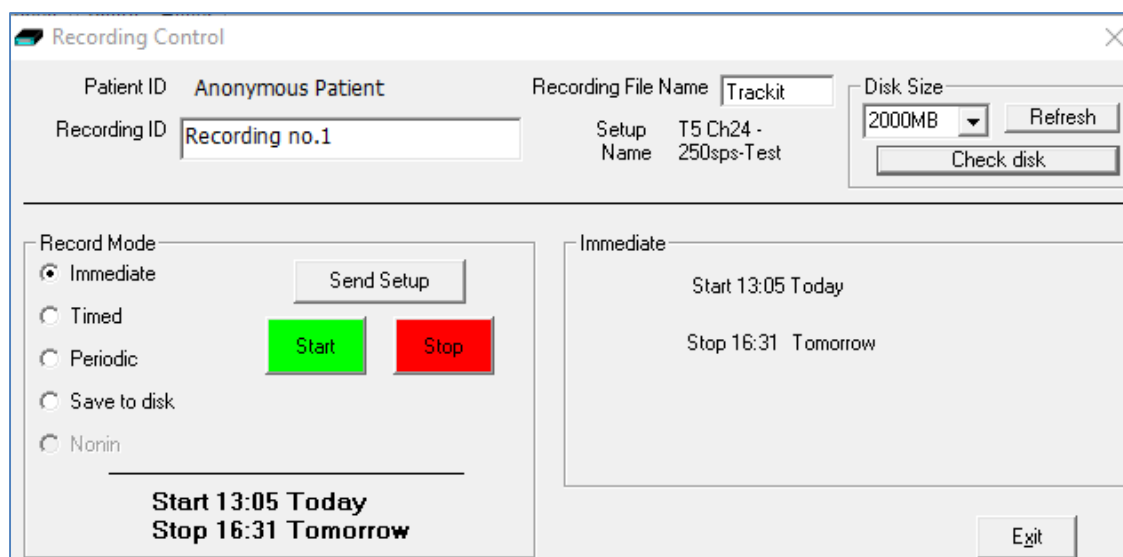

Figure 19: Recording Control panel
9. The Recording Control panel (Figure 19) will appear.
The Recording Control panel provides additional options when recording to the memory card on the amplifier. These options are not applicable when performing a PC recording. Click on the 'Setup Recording' button in the Trackit Control Panel to open the Recording Control dialog box (Figure 19). The Recording Control panel is also displayed by pressing the "Amb Rec" or "Dual Rec" button on the Home toolbar.
Immediate: the recording starts as soon as the Start button is pressed (Figure 19). Recording finishes when the Trackit is turned off, when the disk is full or when the recording is stopped.